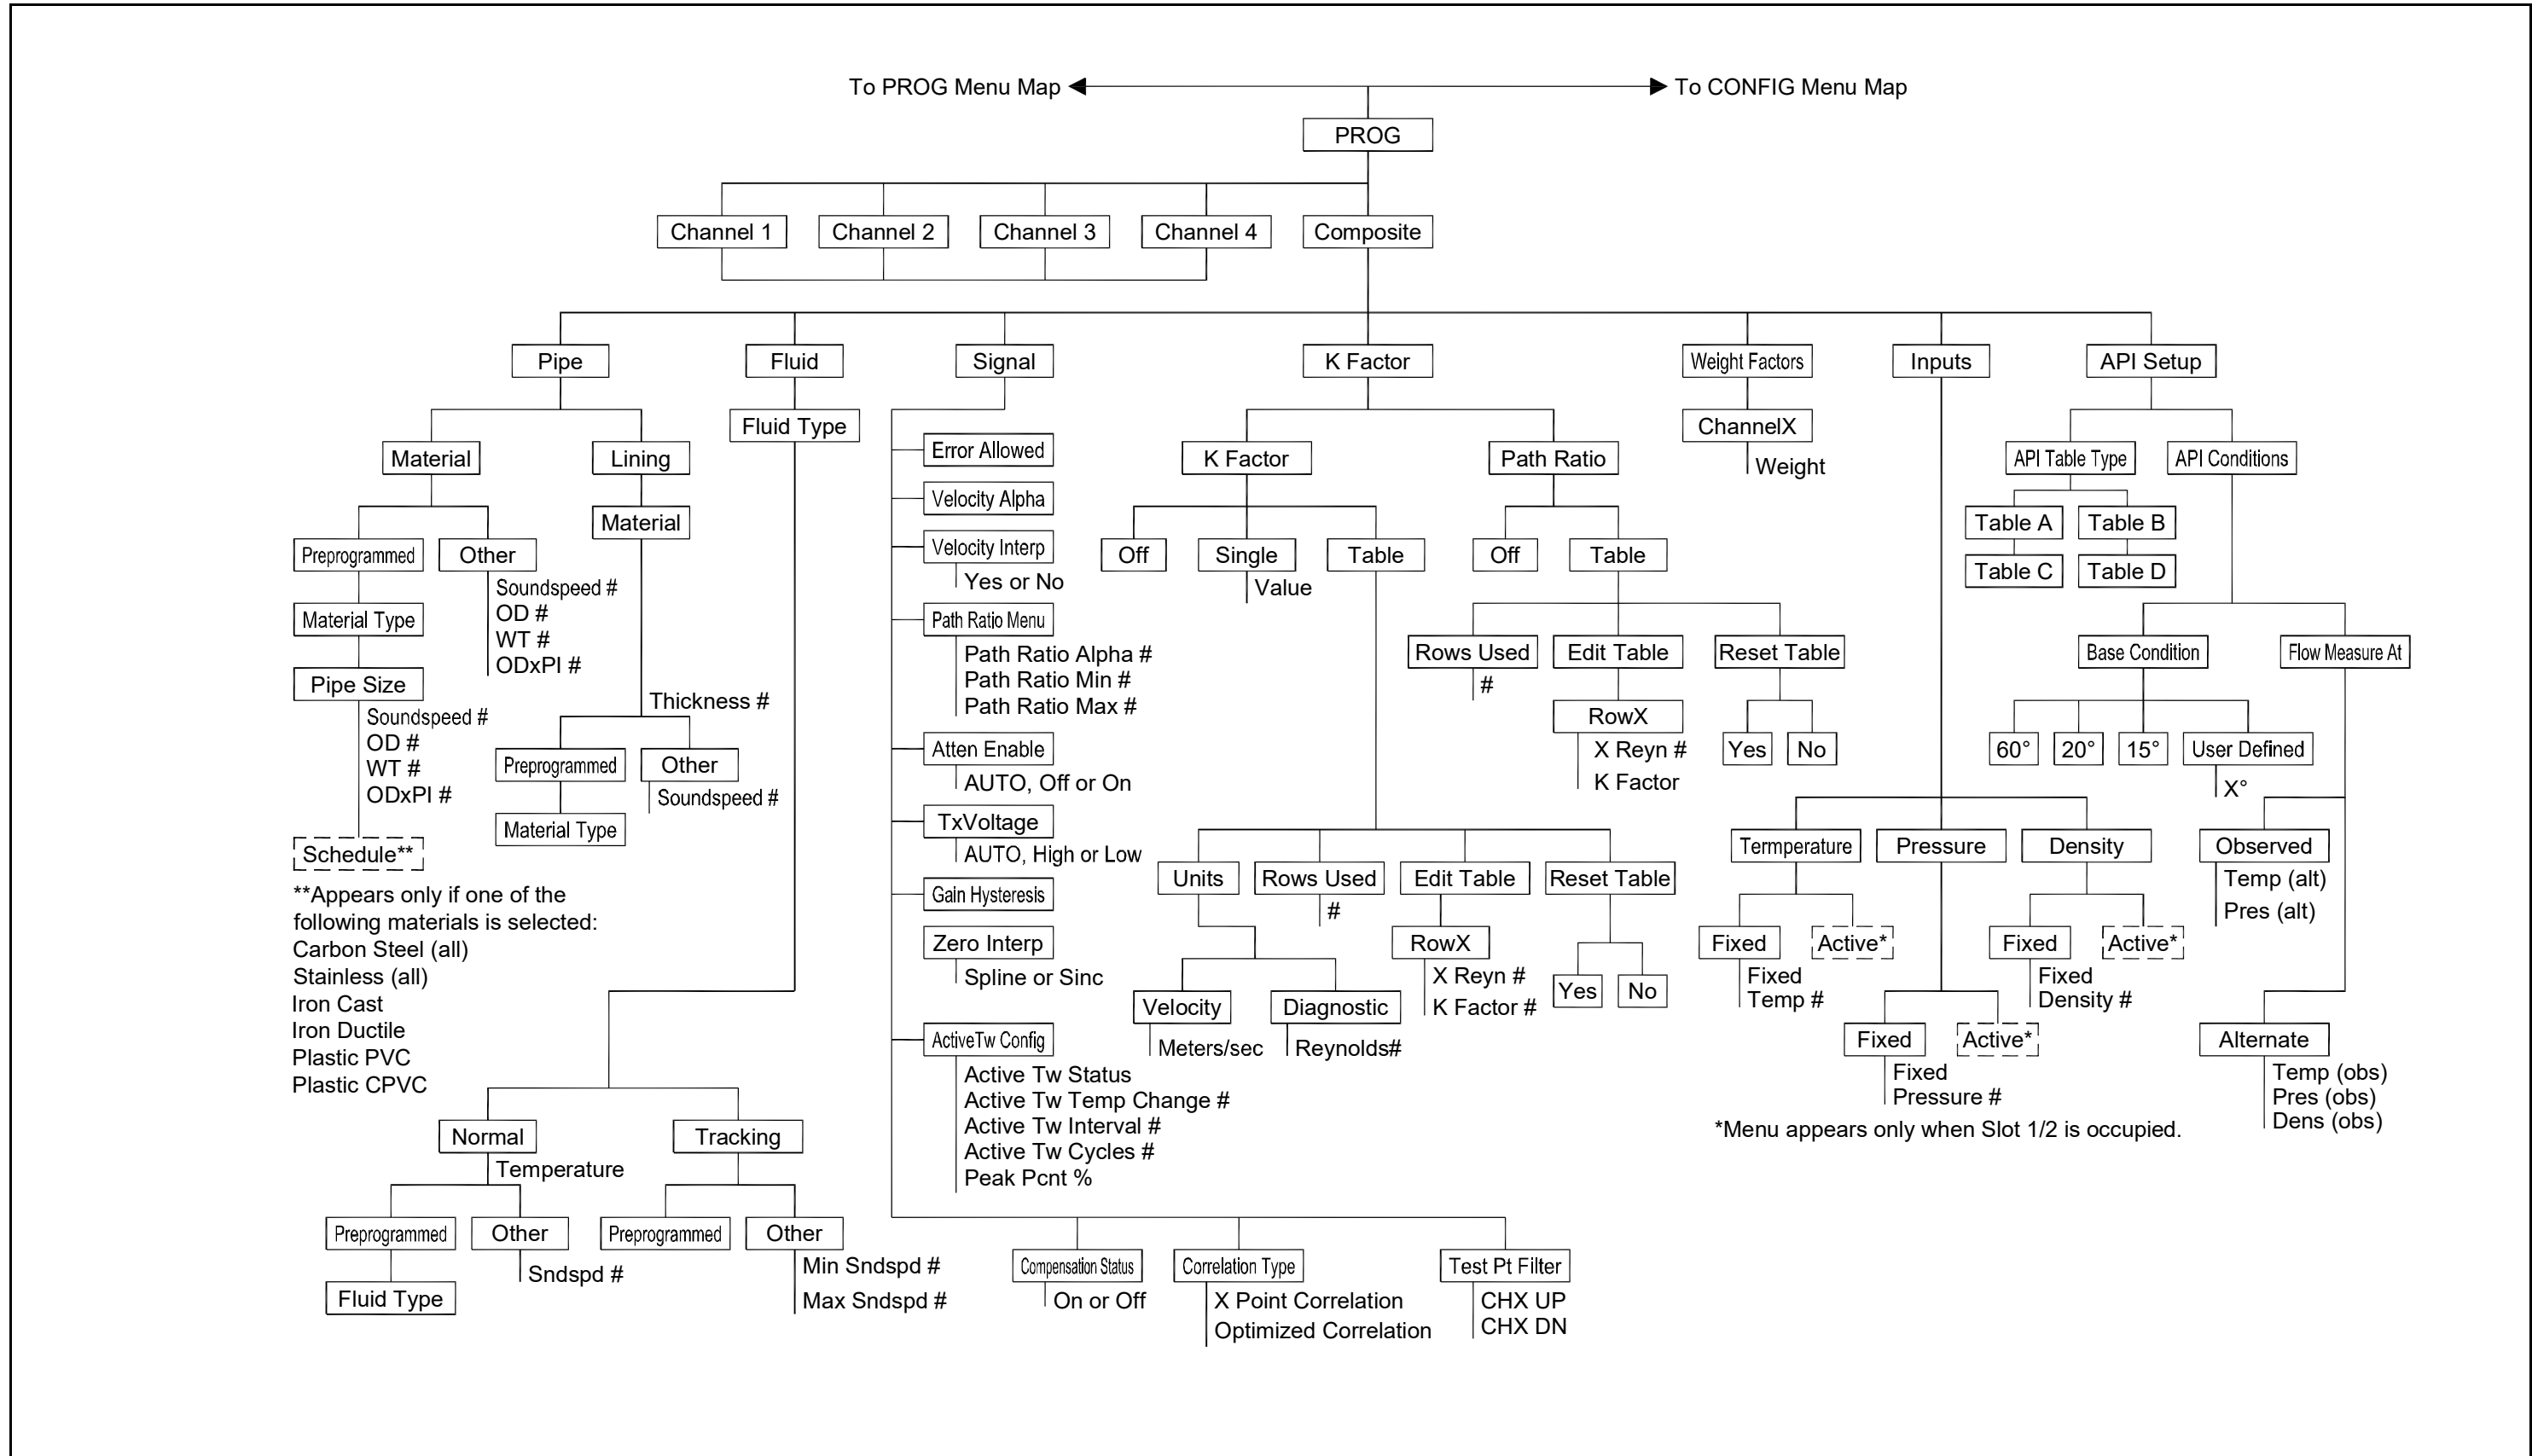

Figure 232: PROG Composite Menu Map
- Figure 232: PROG Composite Menu Map